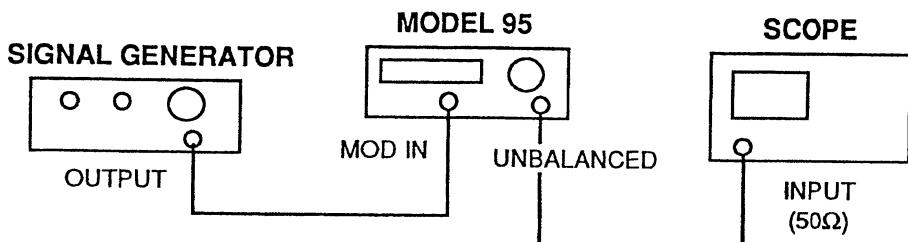

Figure 3-6. AM Setup
2. Connect the Model 95 and test equipment as shown in figure 3-6.